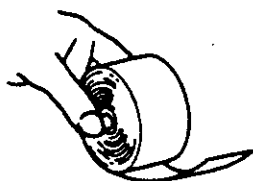

Fig. 3
4. Hold a new paper roll in the direction shown in Fig. 3 so that the paper end will be fed from the bottom.